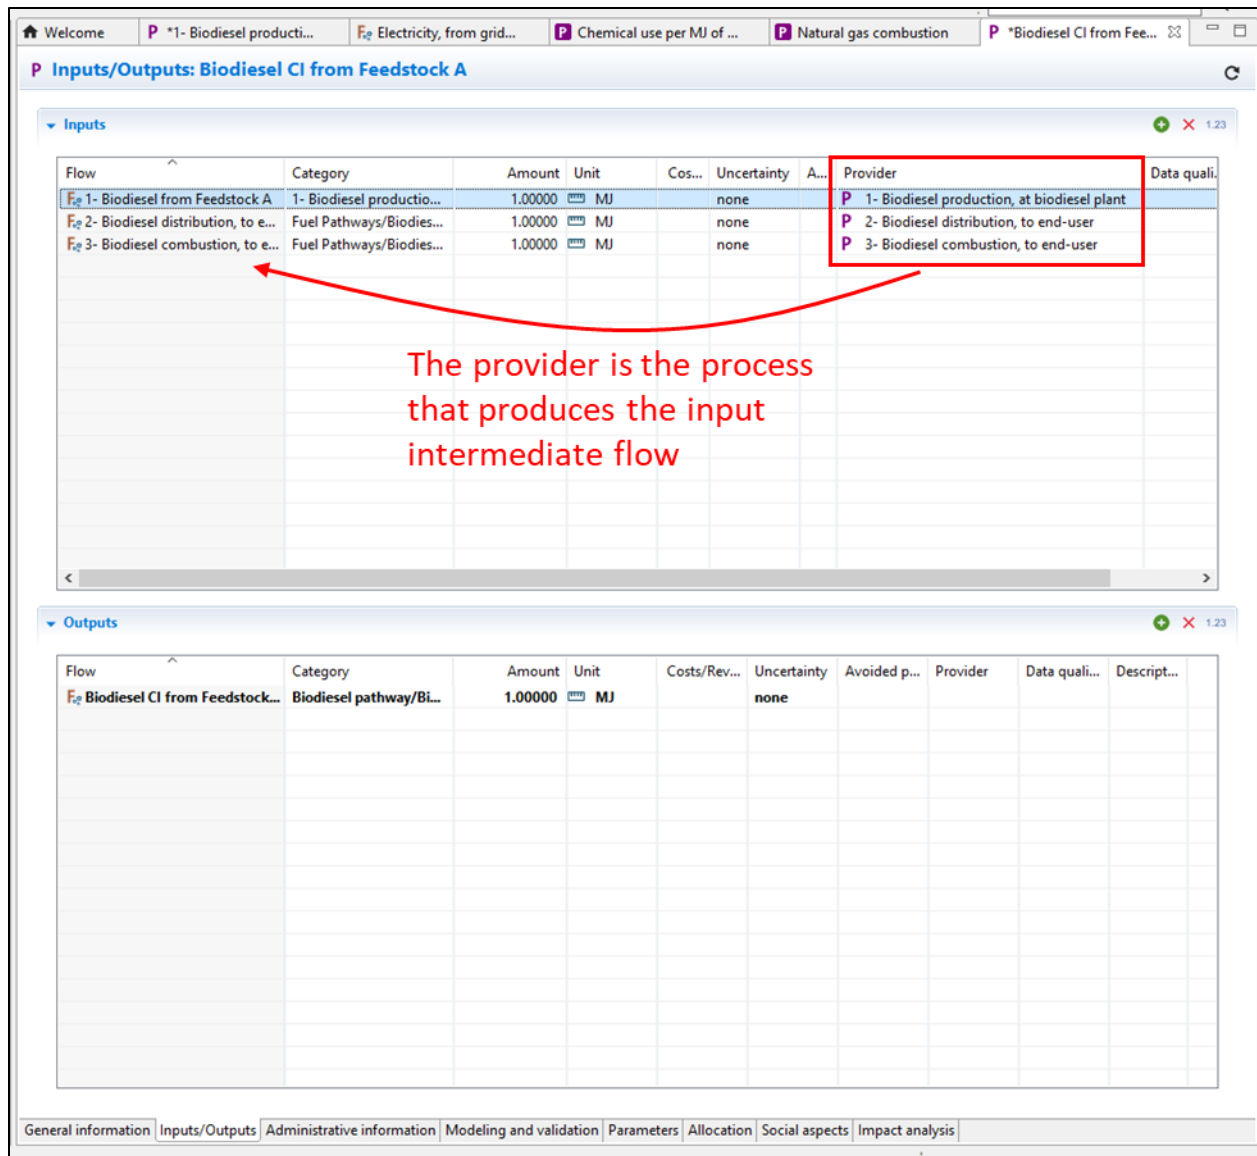

Figure 22: Providers as used in the openLCA software
- For intermediate flows: If the input intermediate flow of a unit process is “Natural gas combustion”, the provider field will have a corresponding unit process also called “Natural gas combustion.” This means that the natural gas flow comes from the natural gas provider (process) of the same name. Providers are important when an intermediate flow come from more than one unit process. However, the processes in the Model are built in a way that there is only one provider per intermediate flow. An example of using providers for intermediate flows in the openLCA software is shown in **Figure 22**. In the figure, since the provider name is the same name as the unit process, it usually matches the input flow name. An exception to this is if there are co-products, as is the case with the provider called “1-Biodiesel production, at biodiesel plant” as shown below.